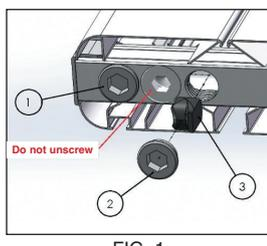

FIG. 1
- A (fig. 1) Unscrew the cap 2 with a size 12 hexagonal wrench
- B (fig. 1) Using a flat screwdriver insert the diverter 3 (art. A052) into the threaded hole and screw it into the manifold as far as the locking tab
- D Connection of valves from below: remove caps 1 and 2 (fig. 1), insert the diverter as indicated in point B to ensure proper circulation of the fluid, replace the caps 1 and 2 with 3/4"-1/2" conical seat reduction (art. A350) or flat seat reduction (art. A351)